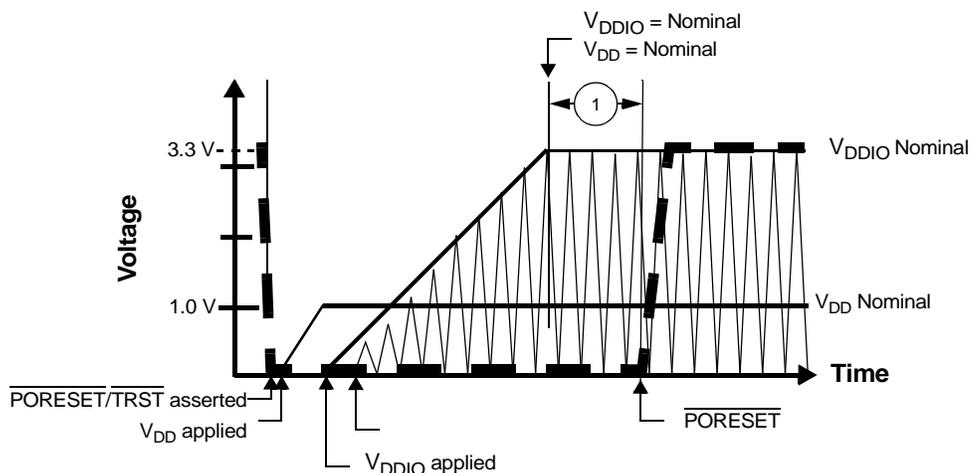

Figure 6. Start-Up Sequence with  $V_{\text{DD}}$  Raised Before  $V_{\text{DDIO}}$  with CLKIN Started with  $V_{\text{DDIO}}$
- CLKIN should start toggling at least 32 cycles before the  $\overline{\text{PORESET}}$  deassertion to guarantee correct device operation (see Figure 6). 32 cycles should be accounted only after  $V_{\text{DDIO}}$  reaches its nominal value.
Figure 6 shows a sequence in which  $V_{\text{DDIO}}$  is raised after  $V_{\text{DD}}$  and CLKIN begins to toggle with the raise of  $V_{\text{DDIO}}$  supply.